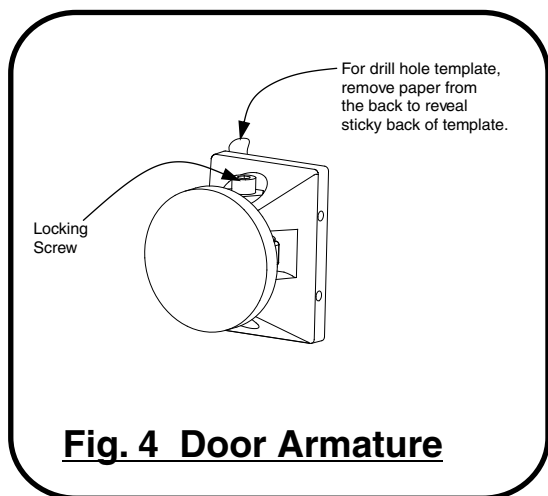

Fig. 4 Door Armature
- A. See Fig. 4. Slightly loosen the contact plate locking screw using a 5/32" Allen wrench so the contact plate can rotate with some resistance. Remove the protective paper from the drill template sticky-back label on the back of the door armature.